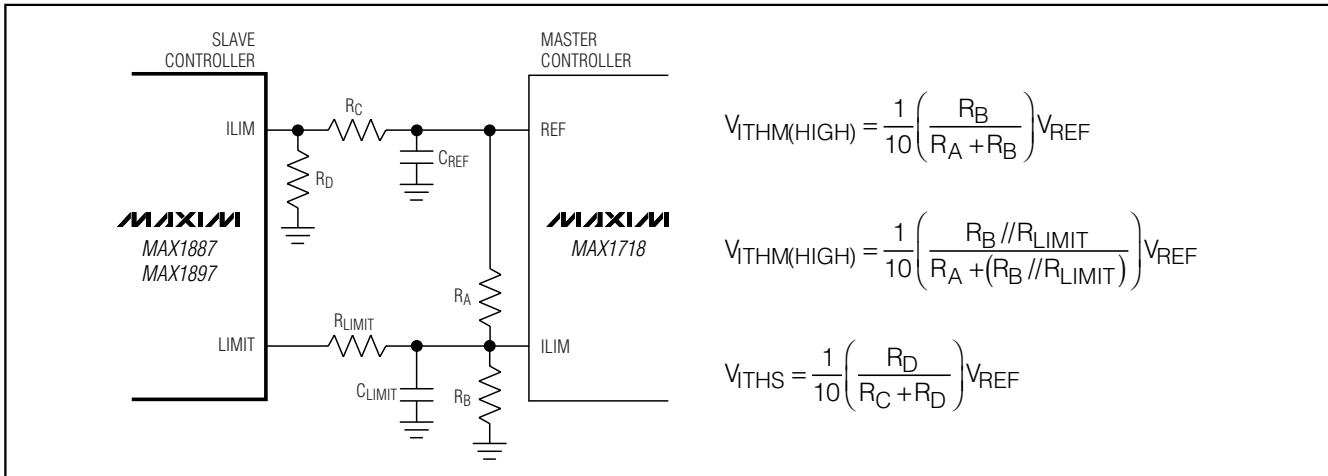

Figure 5. Setting the Adjustable Current Limits
where  $V_{ITHM}$ , the master's current-limit threshold, is typically 1/10th the voltage seen at the master's ILIM input ( $V_{ITHM} = 0.1 \times V_{LIM(MASTER)}$ , see the master controller's data sheet). Connect a resistive voltage-divider from the master controller's internal reference to GND, with the master's ILIM input connected to the center tap (Figure 5). Use 1% tolerance resistors in the divider with 10µA to 20µA DC bias current to prevent significant errors due to the ILIM pin's input current:
where  $V_{ITHS}$ , the slave's current-limit threshold, is precisely one-tenth the voltage seen at the slave's ILIM input ( $V_{ITHS} = 0.1 \times V_{LIM(SLAVE)}$ ). Connect a second resistive voltage-divider from the master controller's internal reference to GND, with the slave's ILIM input connected to the center tap (Figure 5). The external adjustment range of 400mV to 1.5V corresponds to a
Now select the resistive-divider values ( $R_A$  and  $R_B$  in Figure 5) to set the appropriate voltage at the master's ILIM input:
Select the resistive-divider values ( $R_C$  and  $R_D$  in Figure 5) to set the appropriate voltage at the slave's ILIM input:
4) Determine  $R_{LIMIT}$  (Figure 5) from the above equation: